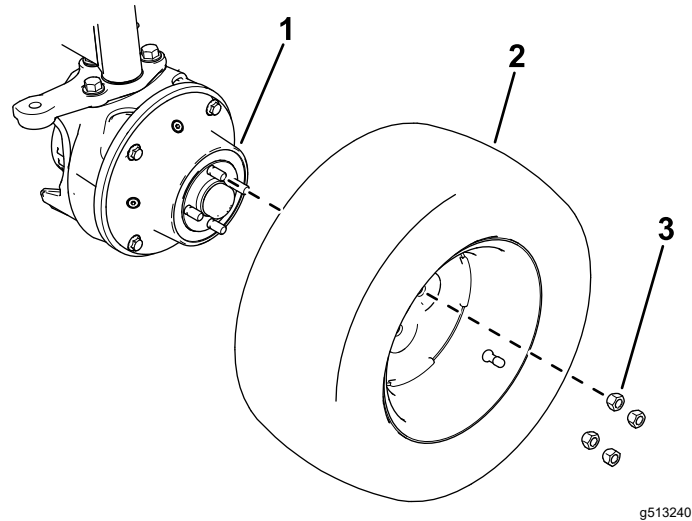

Figure 3
1. Use 8 nuts (3/4 inch) to secure the wheels to the gearboxes (Figure 3).